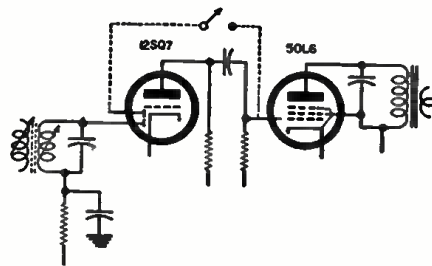

Fig. 1. Noise limiter for S-38 receiver.
While an effective noise limiter is a very useful feature on any communications receiver, many of the lower-priced sets do not incorporate one. Noting that the *Hallicrafters S-38B* had its 12SQ7 diodes paralleled, it was decided that one of these tubes could be put to better use as a noise limiter (especially after it was found that receiver performance was unaffected if one diode was disconnected). Since the "send-receive" switch is never used by the operator of this particular receiver, a "no-cost" modification was possible. The two leads of the "send-receive" switch were removed, soldered together, taped, and dressed down near the chassis. The lead connecting the 12SQ7 diodes together was clipped and the diode (pin 5) thus isolated was connected to one contact of what was the "send-receive" switch. The other switch contact is connected to the grid of the 50L6 (pin 5). When the switch is closed (placed in the "receive" position), the diode is connected to the 50L6 grid. Limiting occurs with signals even smaller than 0.1 volt at the 50L6 grid. Refer to Fig. 1 for the simple circuit modification.
Fig. 1. Oscilloscope displays obtained (A) when sweep rate (f_s) and resonant frequency of the tank (f_r) are equal, (B, C) when f_s is a subharmonic of f_r , and (D) when f_s is greater than f_r .
Conversely, to adjust an *LC* circuit to a particular frequency, set the scope controls to that frequency and manipulate the value of either *L* or *C* to produce the characteristic pattern. The direction in which the parallel combination is off may be determined by comparing the shape of the initial pattern observed with those in Fig. 1.